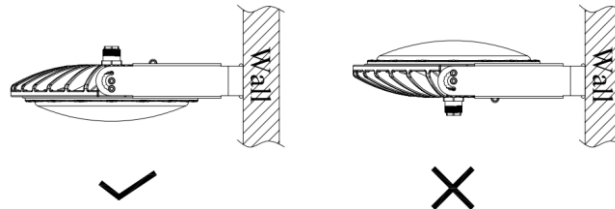

Figure 3
- ☞ Mounting Orientation – Lens horizontal Facing Down or Lens Facing Down 45° from vertical. Don't adjust the Mounting Orientation as “Lens horizontal Facing Up” position. (Figure 3).